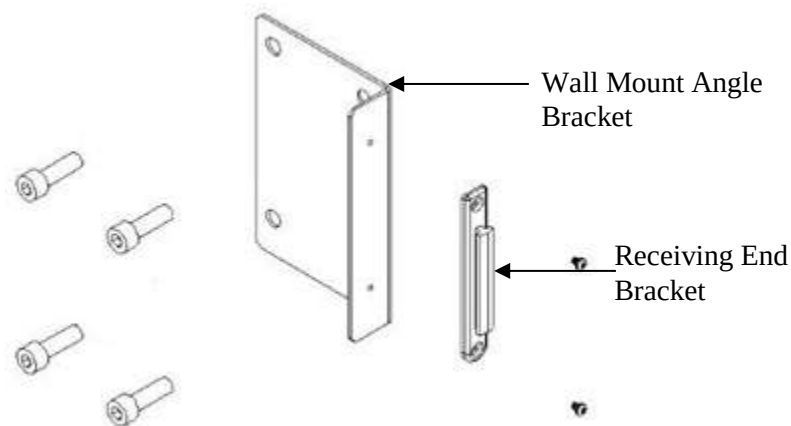

Figure 119: Receiver End
1. Attach the receiver end bracket supplied with the barrier belt (0125-20359-00) to the wall mount angle bracket (3000-20412-00 or 3000-23604-00) using two M3-0.5x4mm PPH screws (0201-20380-04). Refer to Figure 119.